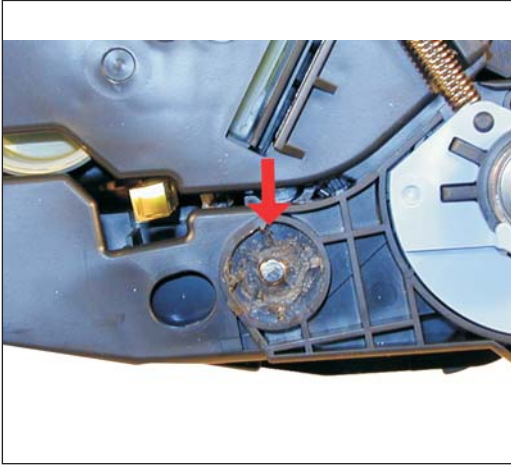

Figure 17
3) With either a sharp knife or a Dremel tool with a grinding bit, remove the inner plastic ridges from around both sides of the hinge pins. Figure 16 shows an un-cut section, and Figure 17 shows a cut section.